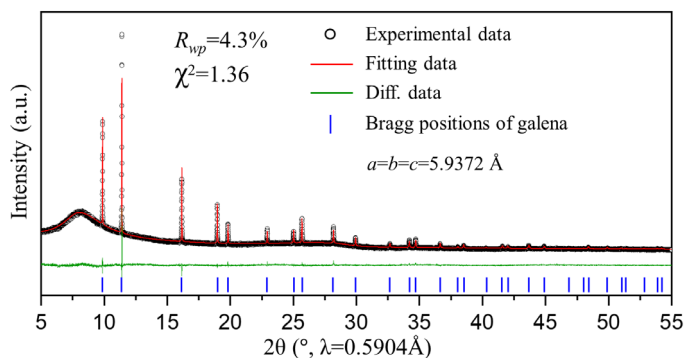

Figure 4. Rietveld refinement of the first dataset from the in-situ PXRD experiment.
an example, Rietveld analysis of the first dataset is shown in Figure 4. The broad peak centered at about 8° is from the amorphous silica tube, silica powder, and leaching solution. Preferred orientation of galena was observed as the intensity of the (200) peak at 11.4° is higher than expected. This is due to the